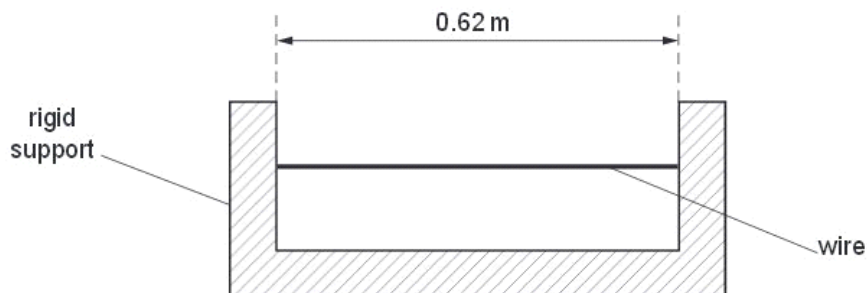

Fig. 5.1
- (b) A steel wire of uniform cross-sectional area $7.9 \times 10^{-7} \text{ m}^2$ is heated to a temperature of 650 K. It is then clamped between two rigid supports, as shown in Fig. 5.1.